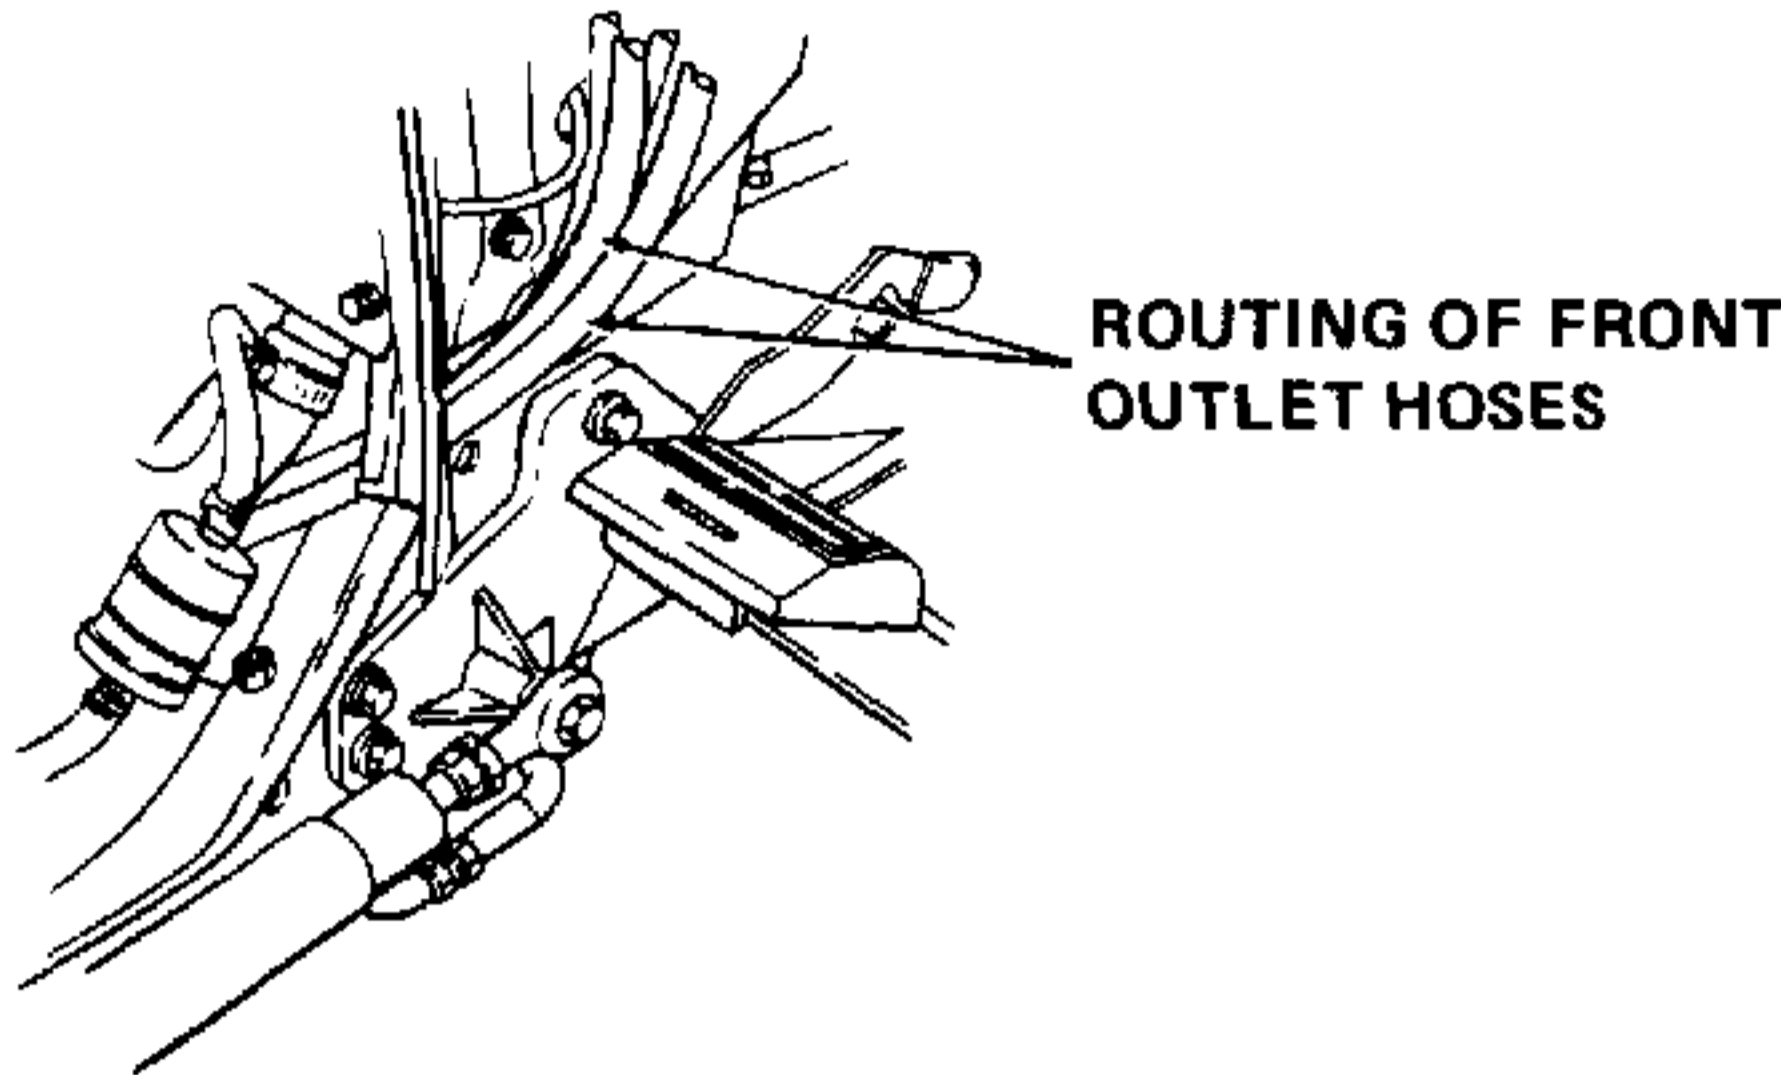

Figure 7-87. Routing of Front Outlet Hoses (Models 1782 and 2182 Only).
- a. For tractor Models 1782 and 2182 only, route the hoses through the opening shown in Figure 7-87. Push hoses across to right side of tractor and carry forward to front of tractor.